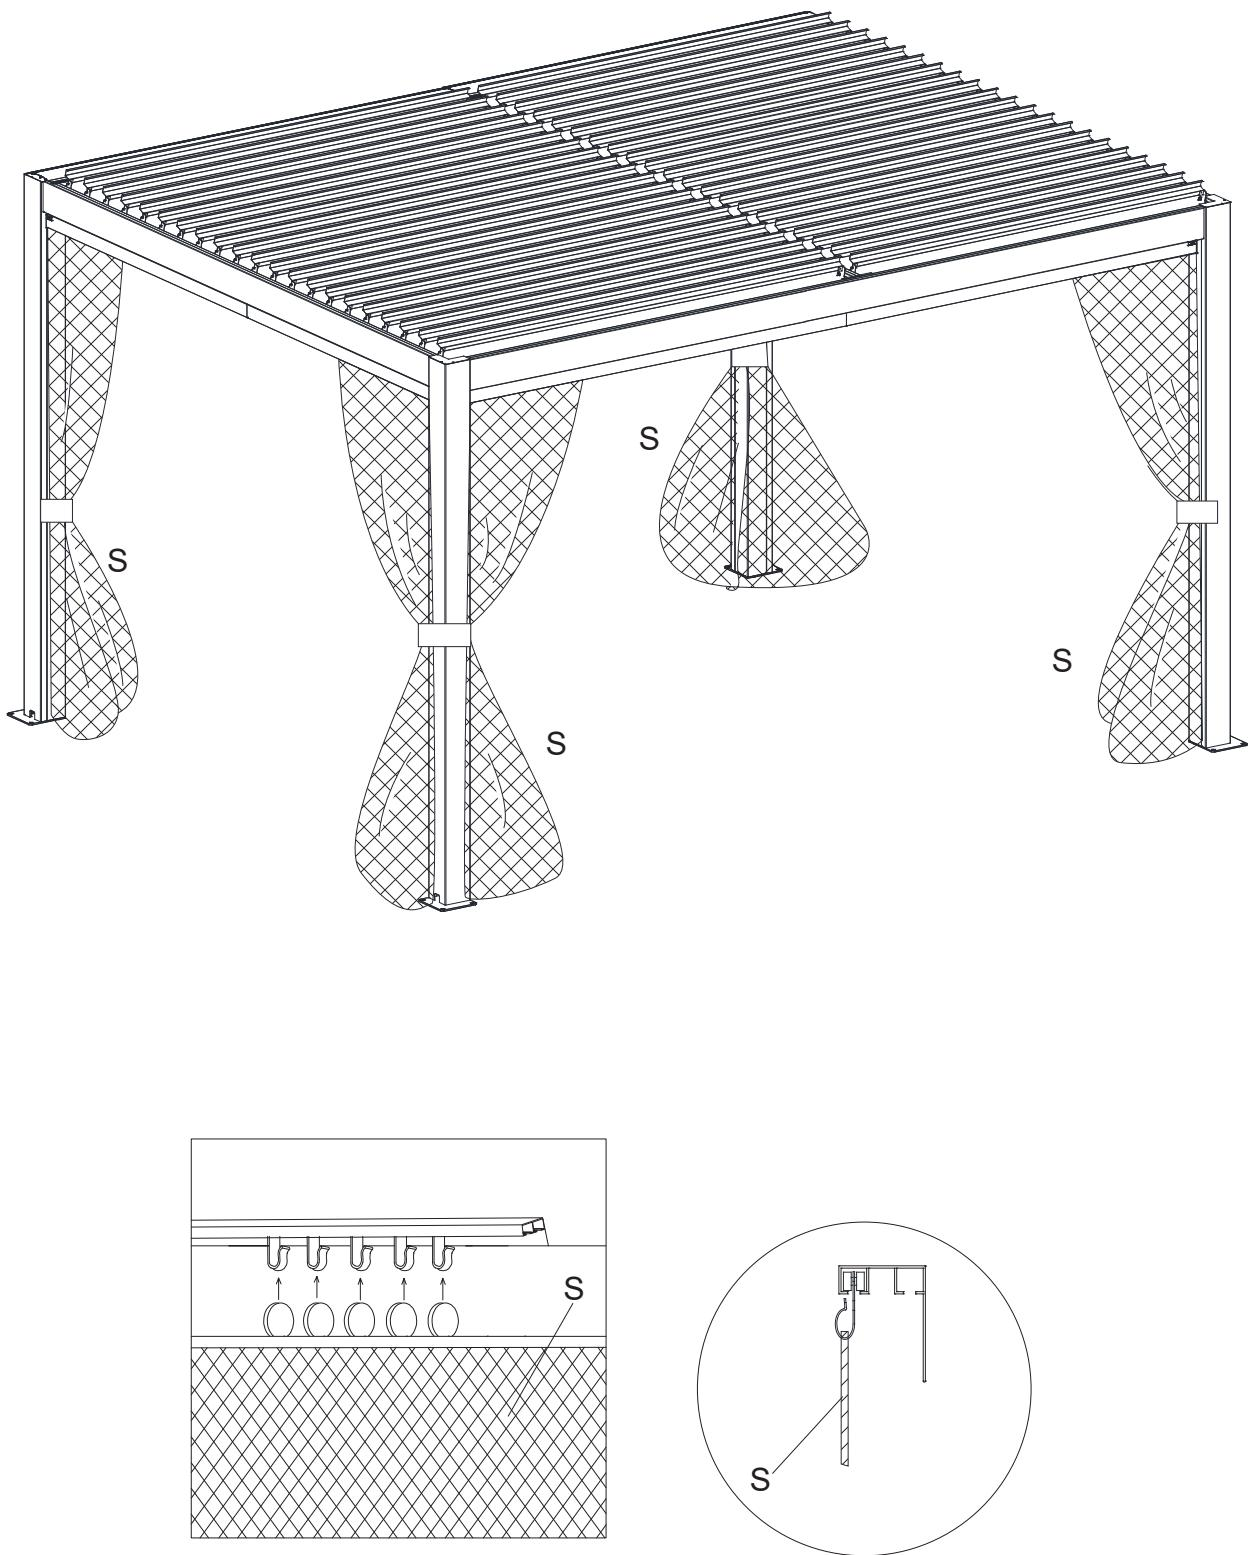

Figure 3
3. Hang the Mosquito Net (S) on the Hook. See Figure 3.